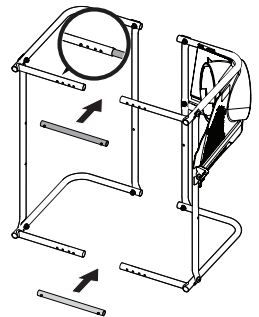

Figure 8
9. Align left and right frame assemblies as shown in Figure 8.
10. Insert adjustment tube into bottom front of left frame assembly as shown in inset of Figure 8, turning until spring button snaps into place in the hole farthest from the edge.